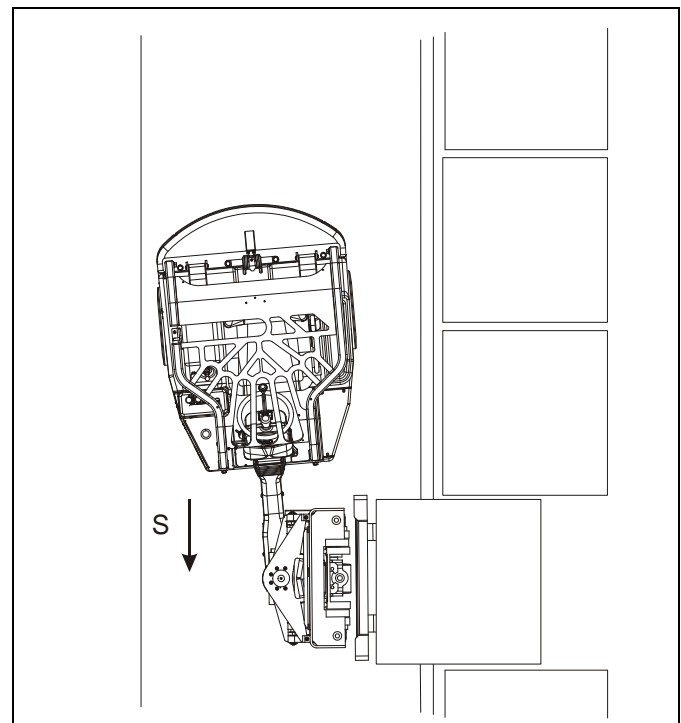

Figure 4-21: Straighten the Load for Drop-Off
7. Drive forward and straighten out the load using the steering wheel so it is square over the stack. See Figure 4-21.